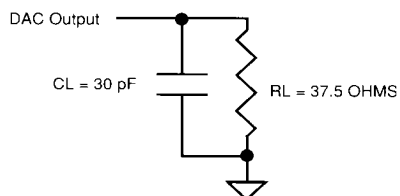

Figure 1
DAC Switching Test Load	Figure 1
1. ICC is measured with VCC = VCC (max) and tCHCH = tCHCH (min). The DAC test load is as shown in Figure 1. DQ0-DQ7 are unloaded. IREF = -8.88 mA.